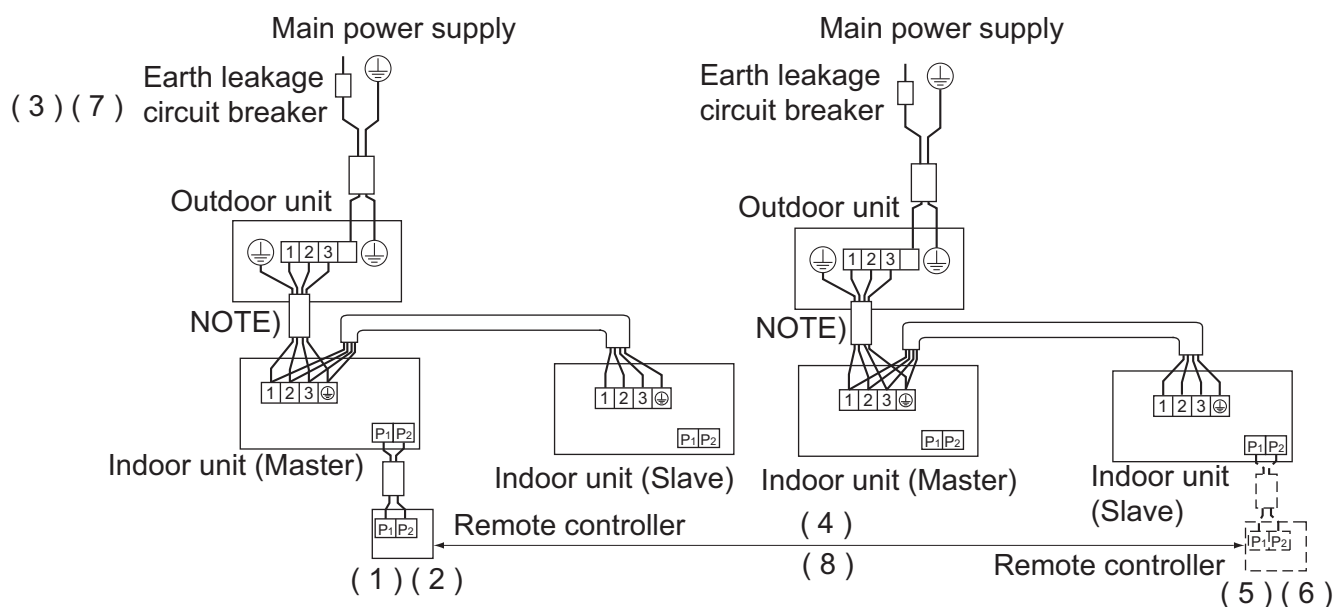

Fig. 29
- Perform the following procedure when setting the master and slave unit separately. **(Refer to Fig. 29)**
- (1) Change the SECOND CODE NO. to "02", individual setting, so that the slave unit can be individually set. **(Refer to Table 9)**